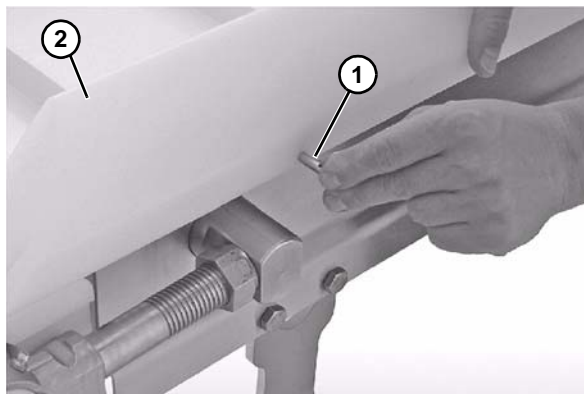

Figure 31
3. Insert the pull pins (**Figure 31, item 1**) into the holes in the guide (**Figure 31, item 2**).